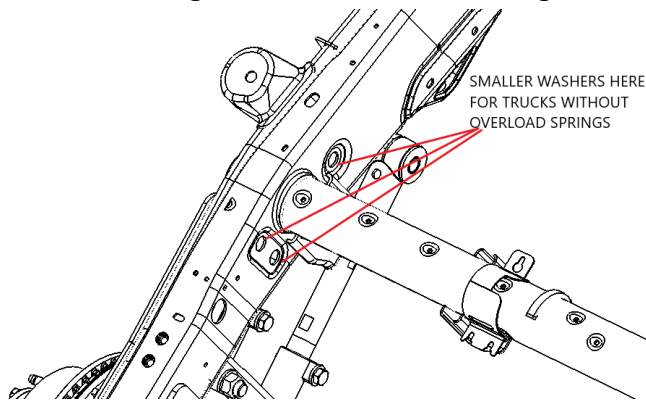

Figure 21
- 12:** Locate the front trailing arm mounts. DS Perch Mount P/N 10006415, PS Perch Mount P/N 10006377. Place them against of the upper bag mount side plate. The front of the mount goes into the front leaf spring mount and uses the factory leaf spring bolt. If your truck came with overload springs, you will use the M12 x 1.75 – 60mm bolts on the Driver's Side and M12 x 1.75 – 140mm on the Passengers Side. If your truck did not come with factory overload springs see the following step. See figures 21,22, and 23.
- 13:** If your truck did not come with overload springs, you will use 7/16" hardware in those holes. If using the 7/16" hardware, the larger washer goes on the outside of the kit, the smaller washer goes into the frame. See figure 21.